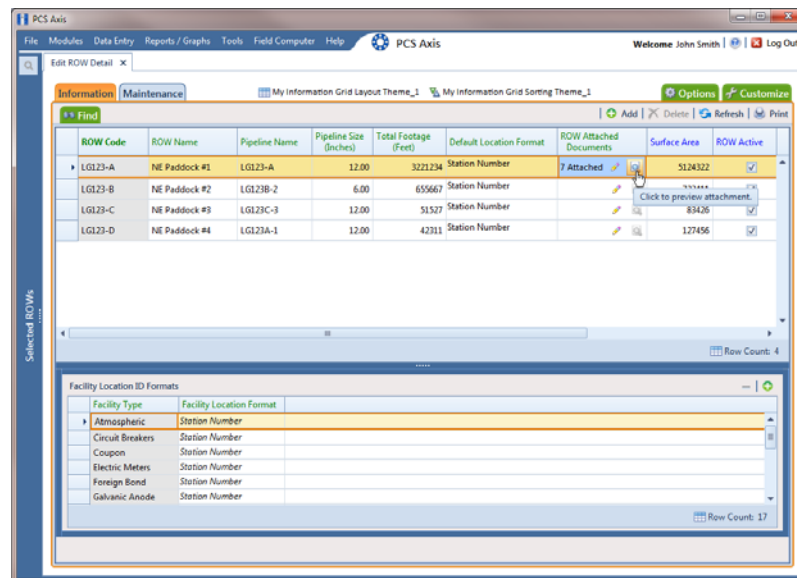

Figure 4-29. Edit ROW Detail
- 2 Click **Data Entry** > **Edit ROW Detail** to open the *Edit ROW Detail* window (Figure 4-29).